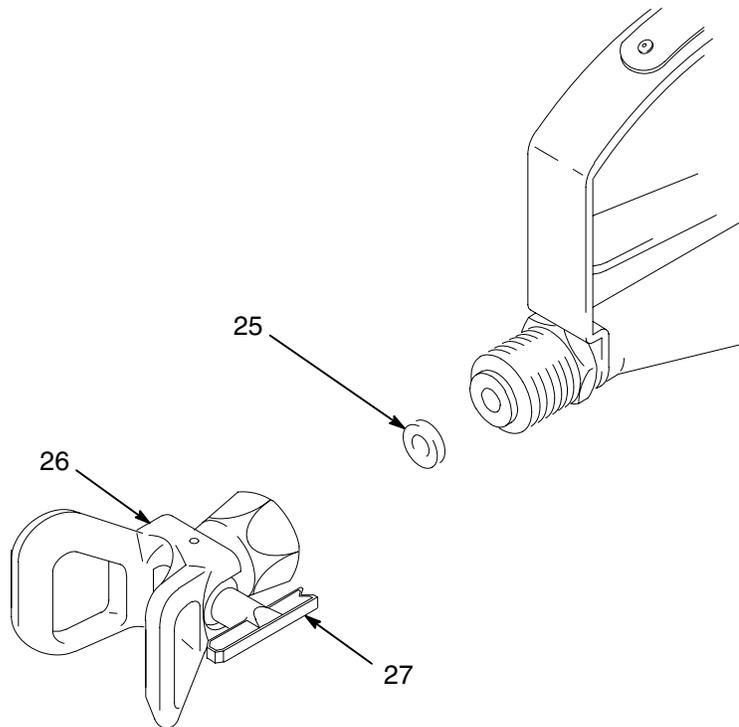

Fig. 1
4. With the gun safety latch engaged, unscrew the retaining nut (B) of the tip/guard assembly (26, 27), and install the gasket (25) in the retaining nut. Screw the tip/guard assembly firmly onto the gun. Tighten with a wrench. See Fig. 1.
- NOTE:** Failure to install the tip gasket (25) will result in leaking.